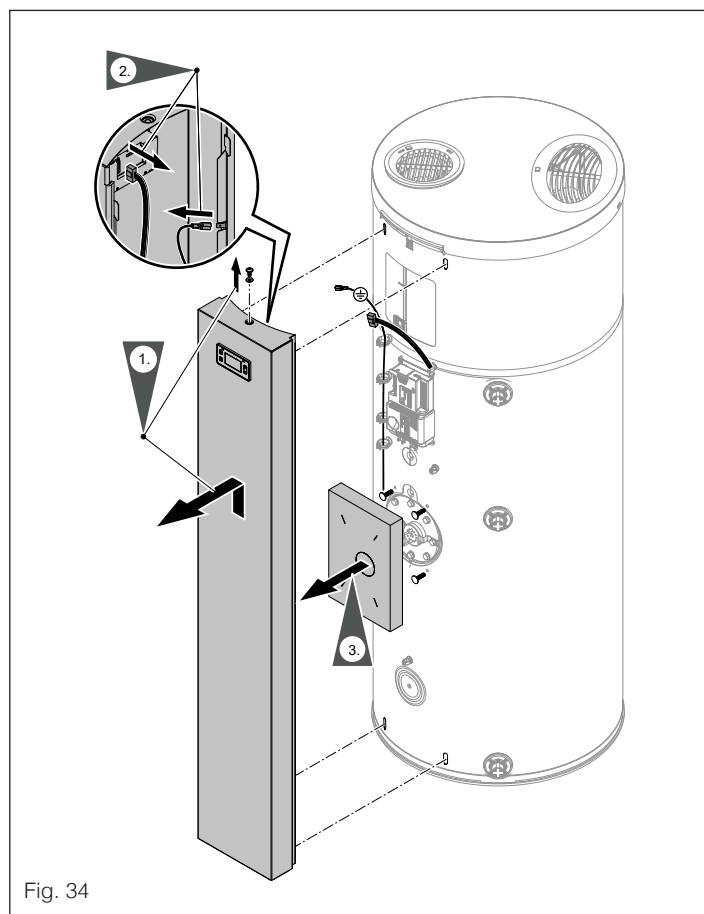

Fig. 34
- 2 Remove the front cover. See "Fig. 34".
- 3 Remove the front cover. See "Fig. 34".
- 9 Fit the front cover with an earth cable, see "Fig. 34".
- 2 Remove the front cover. See "Fig. 34", "9.4 Removing the front cover" a pagina 61.
- 4 Fit the front cover with an earth cable, see "Fig. 34".